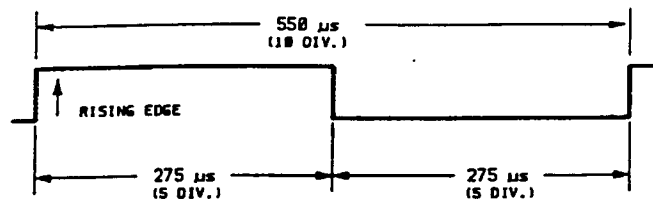

Figure 6-36. REC TX CLK and EXT TC CLK Waveform
- STEP 9** Ensure that the waveform present at TP8 is equivalent to the waveform shown in Figure 6-36. If the waveform is not equivalent, adjust RV3 on the CPU board to attain this reading on the oscilloscope.